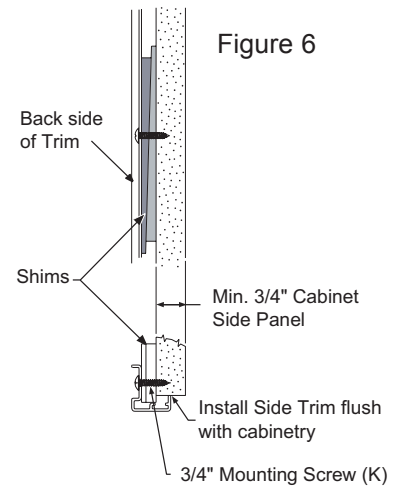
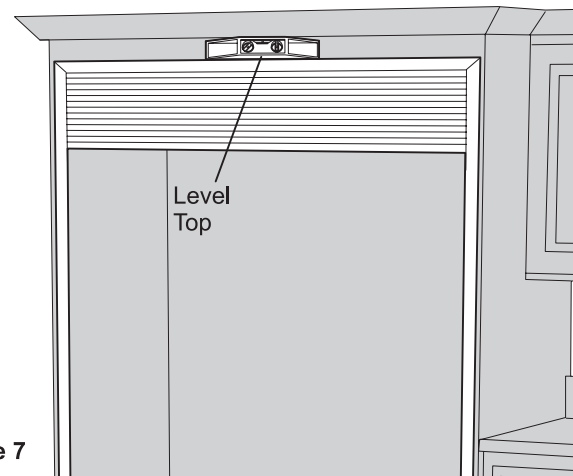

Figure 6
Figure 7
3. Level the top of the trim frame using a carpenter's level. See Figure 7. Shim as necessary. (Shims not included.) See Figures 6 and 6A. Next, secure both ends of top trim (A) to cabinetry using two 3/4" Mounting screws (G) through the holes at each end. Make sure all three screws are snug across the top.